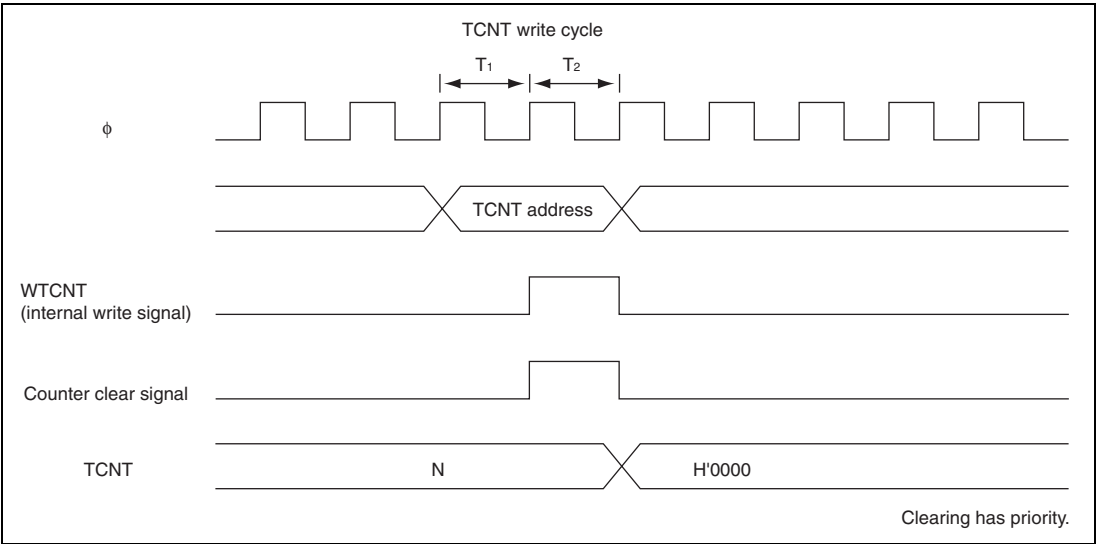

Figure 13.52 Contention between TCNT Write and Clear Operations
- 1. Contention between TCNT Write and Clear Operations: If a counter clear signal is generated in the T_2 state of a TCNT write cycle, TCNT clearing has priority and the TCNT write is not performed. Figure 13.52 shows the timing in this case.